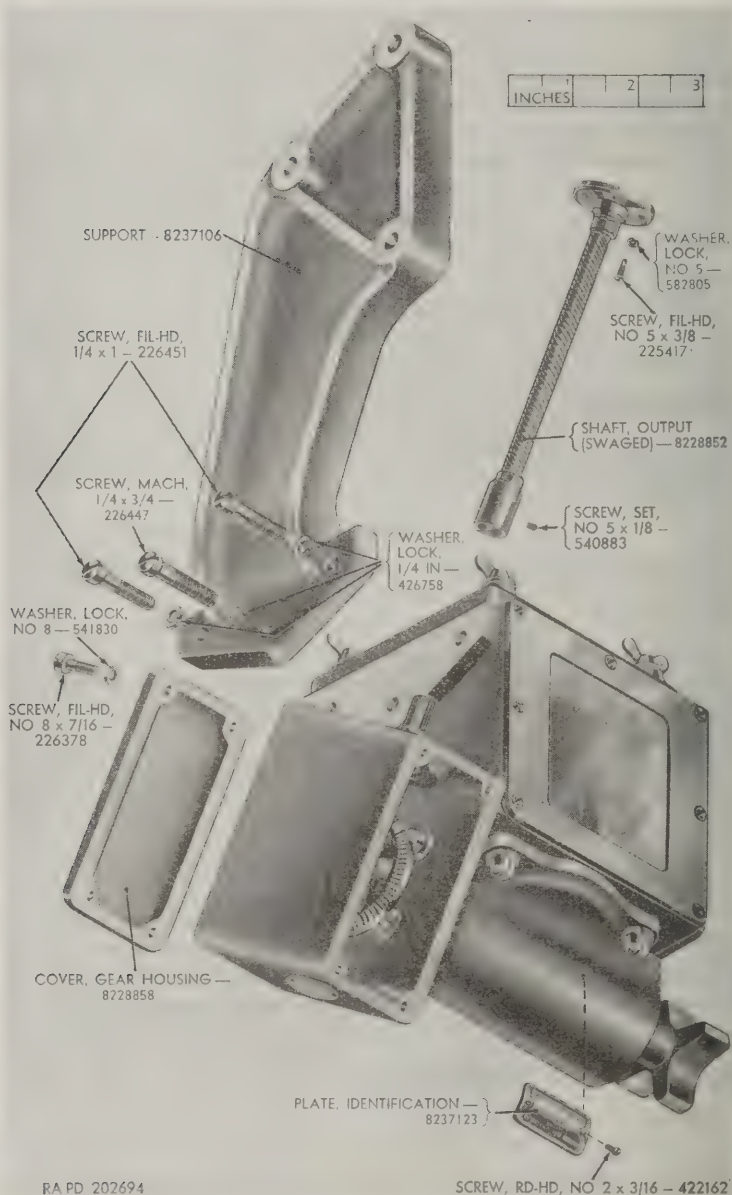

Figure 3. Range drive T25—partial exploded view.
Remove the set screw (fig. 3) from the shaft and pull the shaft from its splined engagement with its driving shaft.
Remove the three fillister-head screws and lock washers (fig. 3) and pull the support from the housing.
Unscrew the two round-head screws (fig. 3) and remove the identification plate.
a. Remove the two gear housing covers (fig. 3) by removing the four screws and lock washers by which each cover is attached to the housing.